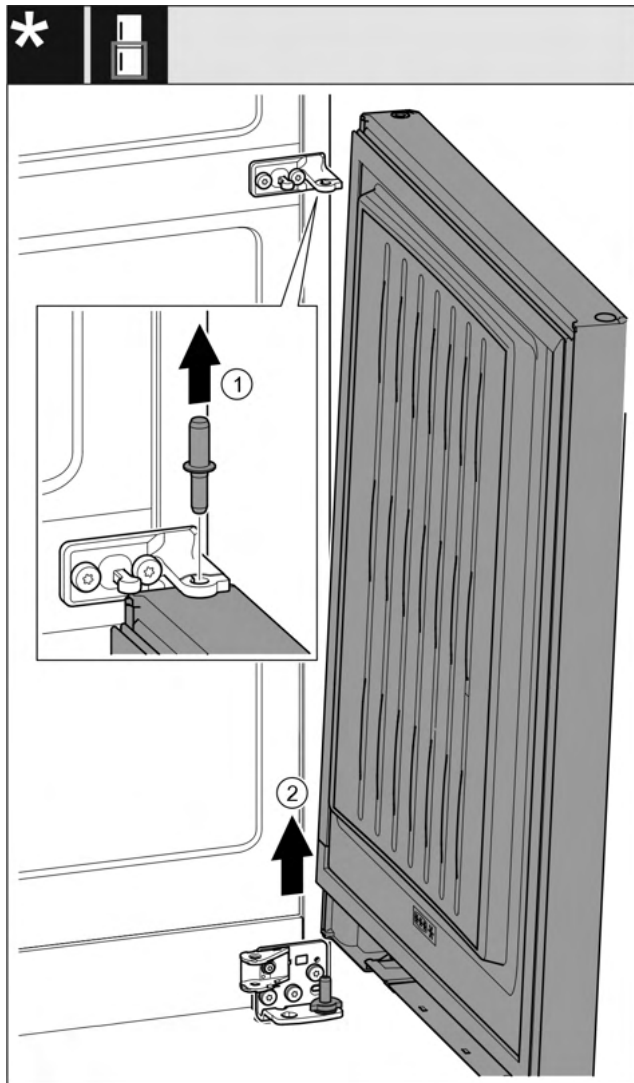

Fig. 25 With closing damper*
- Pull out the pin Fig. 25 (1) upward.*
- Swivel out the door Fig. 25 (2), pull it upward, and set it aside.*